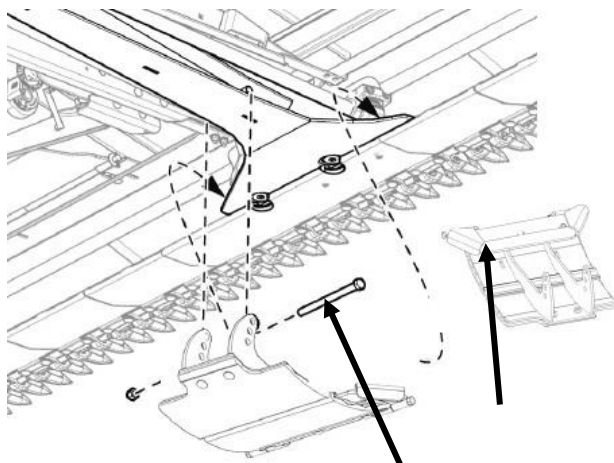

Figure 298
5. On the knife drive paddle strut the front of the skid shoe is slid on the front of the paddle and the rear is secured by a 1/2' X7" bolt and lock nut. Torque the nut to 75 ft. lbs. Figure 298